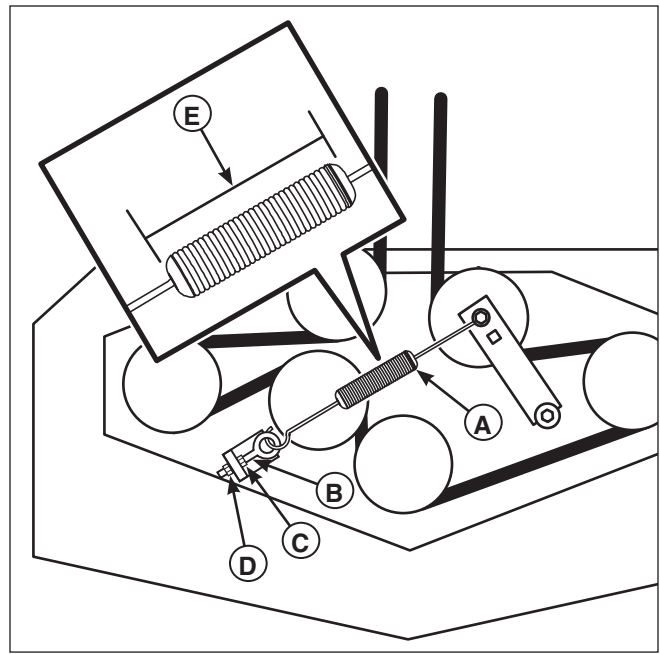

Figure 41. Adjusting the Mower Belt Idler Spring Length
3. Measure the coil length of the mower belt tensioner spring (A, Figure 41). The measurement should equal the measurement as indicated in the chart. If the measurement does not equal the measurement as indicated in the chart, adjust the anchor eyebolt (B).